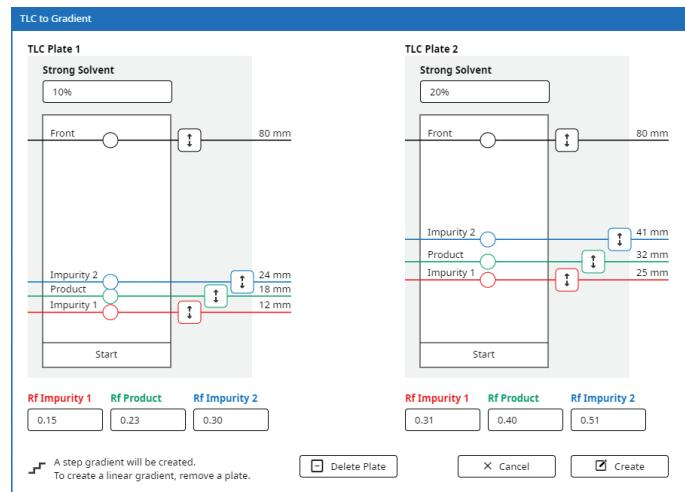

Figure 13. The TLC to Gradient editor.
1. Open the **TLC to Gradient** editor (see Figure 13) by pressing **TLC**.